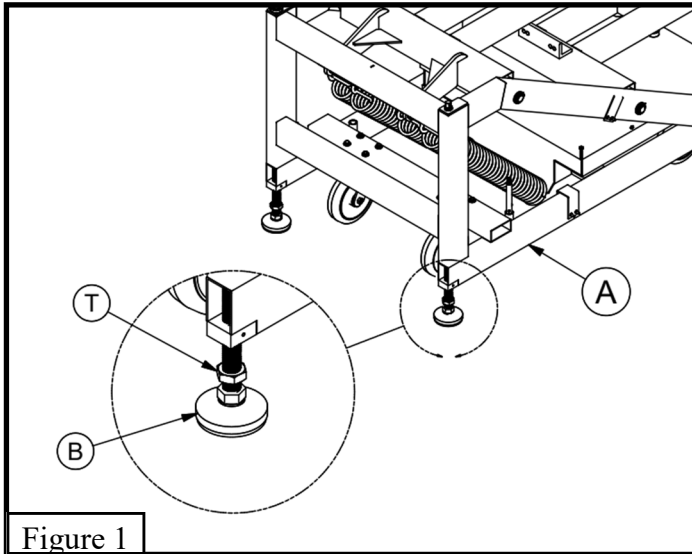
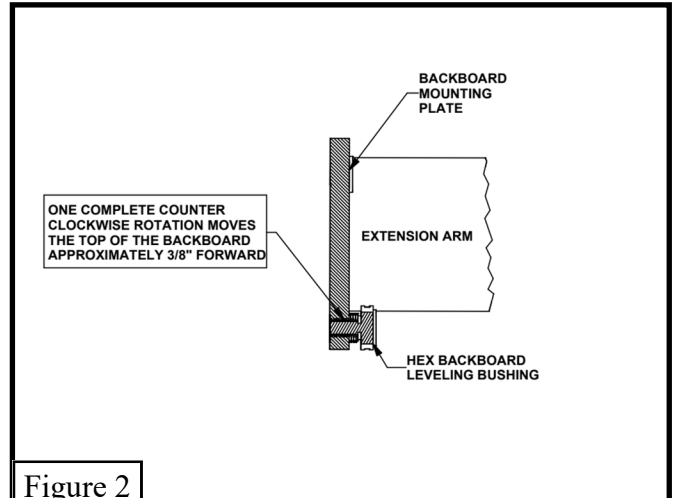

Figure 1
Figure 2
- Carefully lift the front of the *Portable Base* (A) with a forklift or 4 adults until the back wheels make contact. Remove and discard the shipping pallet. Install the *Foot Pads* (B) and then tighten the *Jam Nuts* (T) against the top of the *Foot Pads* (B). See Figure 1.
- Make sure *Portable Base* (A) is on a level floor. It is best to finish assembly on the floor where the *Portable Base* (A) will actually be used.
3. Start with the hex head of the backboard leveling bushings on the lower front of the extension arm threaded up against the rear of the backboard mounting plate. See Figure 2.